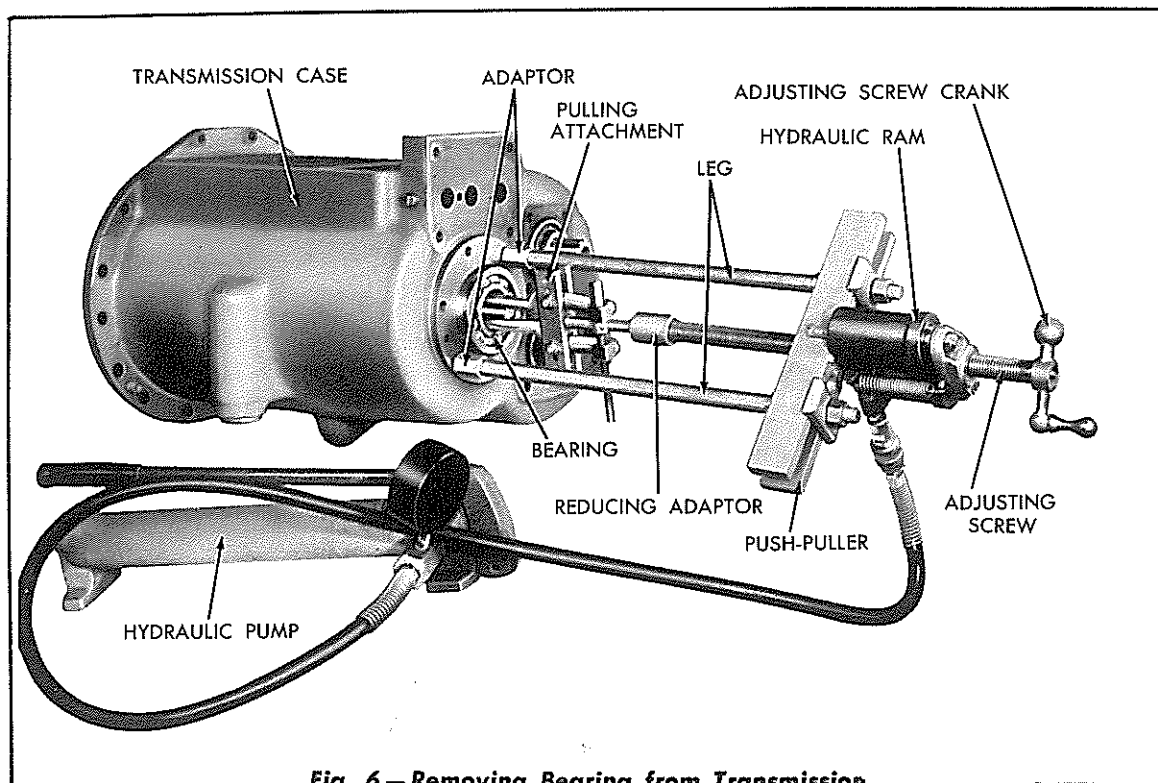

Fig. 6—Removing Bearing from Transmission
21. Using special tools similar to the ones shown in Fig. 6, remove the ball bearings from the bores in the front of the transmission case.